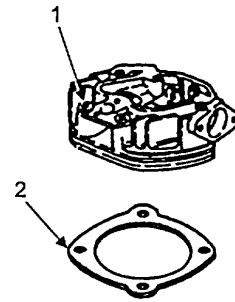

FIGURE 5-17. CYLINDER HEAD
- a. Remove cylinder head (Figure 5-17, Item 1) and gasket (2). Discard gasket.